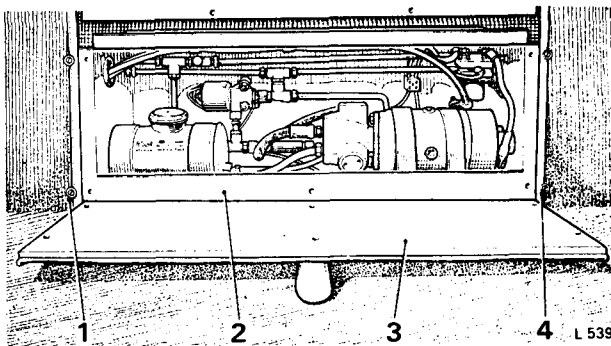

FIG. S70 ACCESS TO THE POWER PACK UNIT
The source of the power is an electric motor connected to the car battery and driving a hydraulic pump operating through solenoid valves. This equipment together with the hydraulic fluid reservoir, is situated behind a trim panel between the rear spring housings in the forward section of the luggage compartment (see Fig. S70).
3. Remove the six screws securing the centre trim panel in the forward section of the luggage compartment (see Fig. S70).